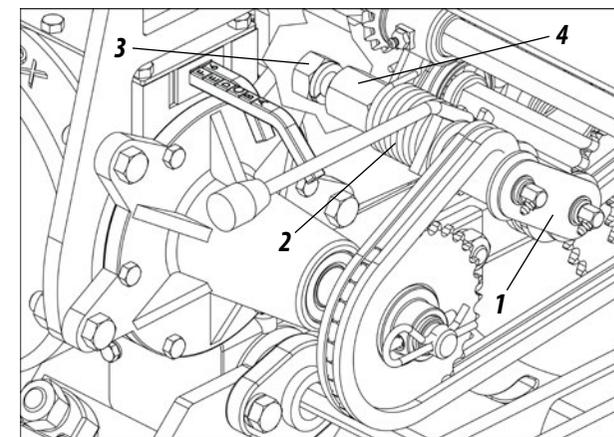

Figure 53
01 - The stretcher (1) is provided with a torsion spring (2) for increased flexibility. If you need more pressure on the tensioner, loosen the inner nut (3), rotate the shaft (4), passing the spring hook (2) to the other side of the rosette and tighten the inner nut (3), as in figure 53.